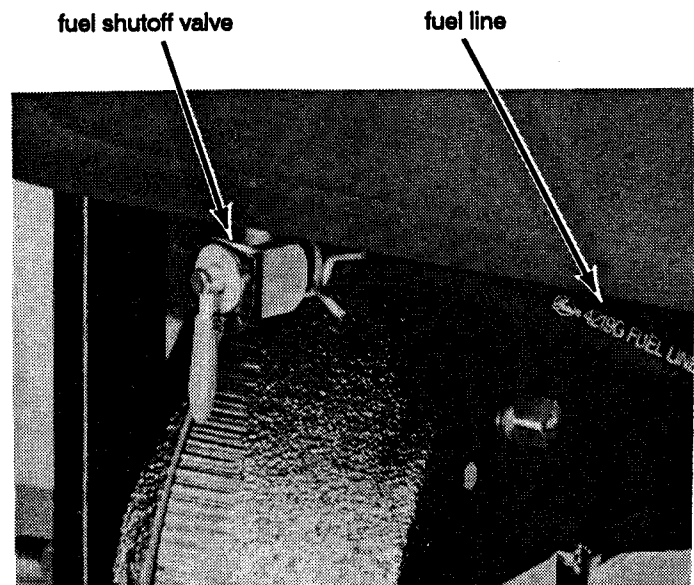

Figure 24. Fuel shutoff valve and fuel line.
3. Close the fuel shutoff (Refer to Figure 24) valve and run engine until fuel in carburetor is used up.
4. Using a pair of notched pliers on the hose clamp, disconnect the fuel line from the fuel shutoff valve. (Refer to Figure 24) Drain fuel line in a suitable container.